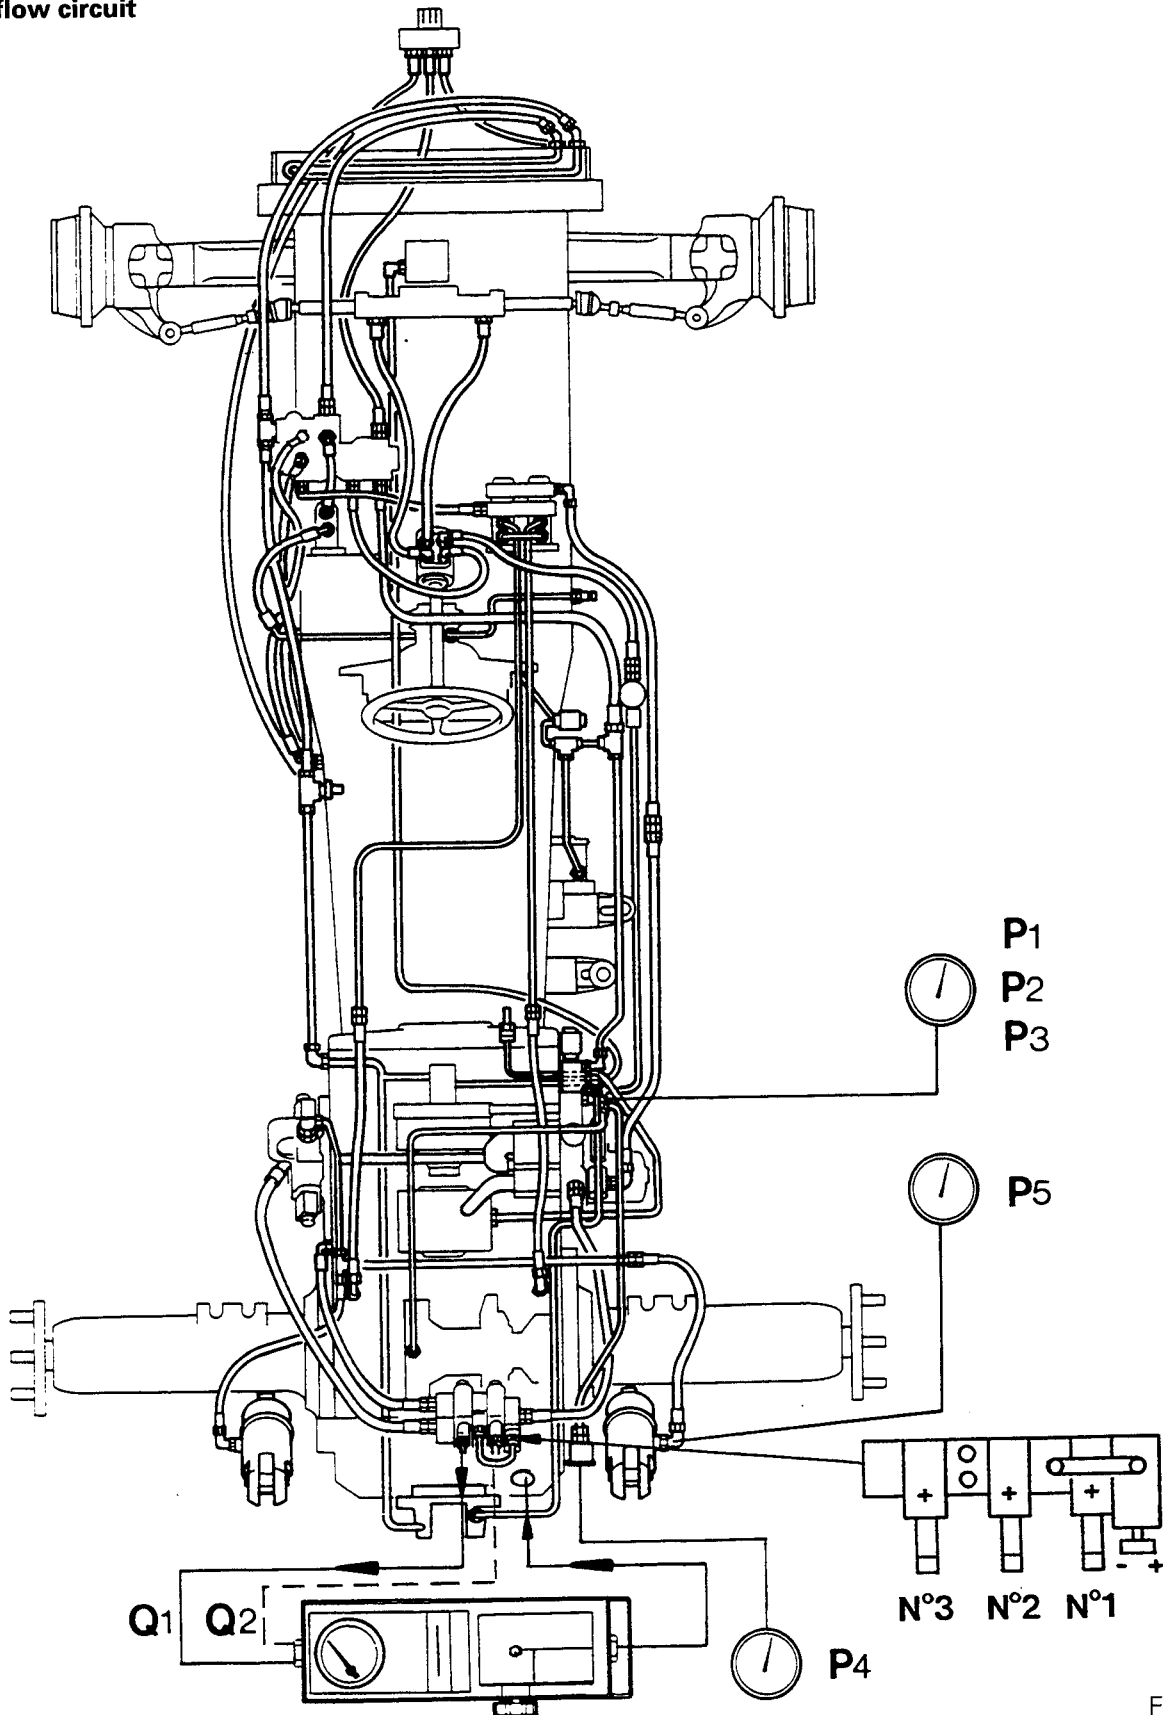

Fig. 3
A. High-flow circuit (Fig. 3)
Connect up the flowmeter as described in Part A.2 but on spool valve No. 1 (Fig. 3).